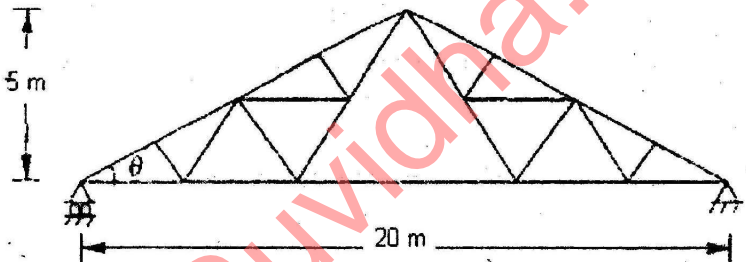

Figure No. 2
2. Find out dead load, live load and wind load for steel Fink Roof Truss shown in Figure No. 2. The trusses are spaced at 8 m c/c. Roofing is of asbestos sheets of dead weight 159 N/m^2 . The wind load normal to roof truss is 1300 N/m^2 . Also find the member forces due to live load only.